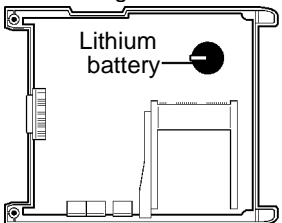

Figure 3
6. Wrench up the battery, and cut the positive (+) connection with nippers (see Figure 3).